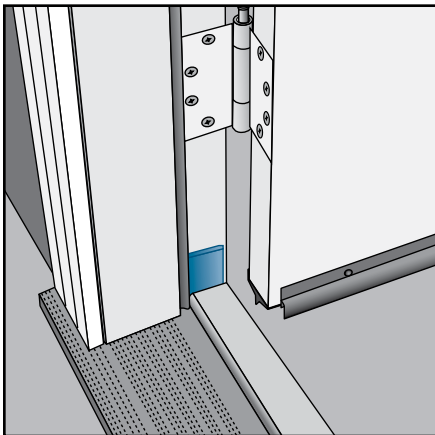

Fig. 35
8. JELD-WEN has included a set of 1-3/4" by 1-1/4" compression weatherstrip wedges. Install these at lower rabbeted corners of the jambs to help ensure a weathertight seal (**Fig. 35**).